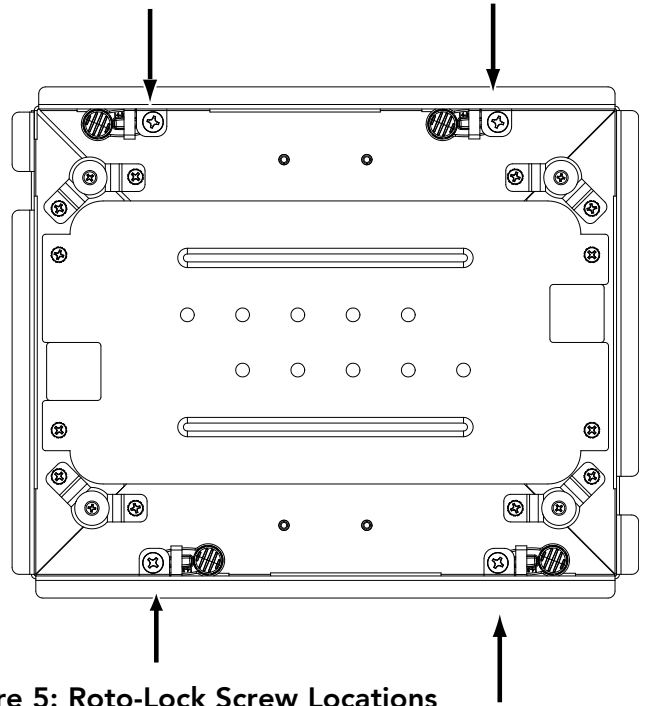

Figure 5: Roto-Lock Screw Locations
7. Hand-tighten the four Roto-Lock screws on the Control Mount's mounting frame as shown in Figure 5. The Roto-Lock clamps will automatically rotate into position behind the wall and begin clamping the mount.